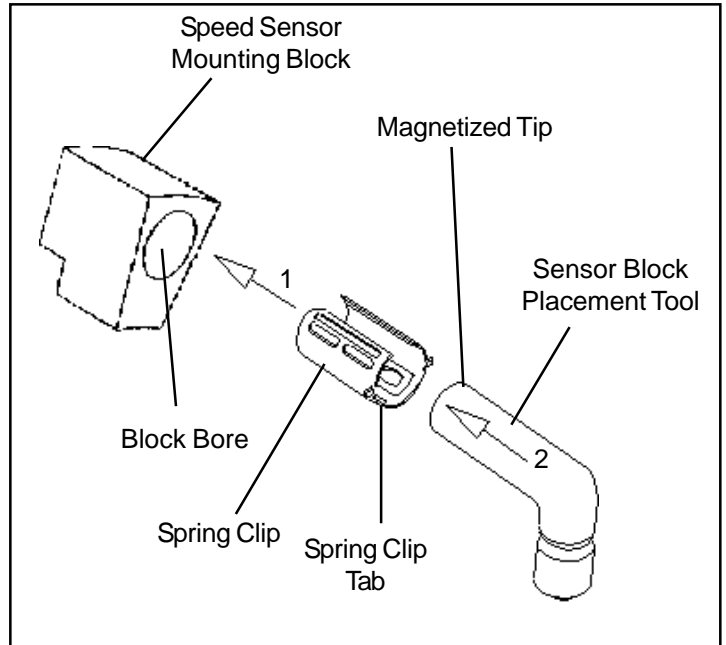

Figure 2
3. Insert the spare spring clip into the sensor block, then insert the sensor block placement tool into block/clip assembly. See Figure 2. Adjust the amount that the placement tool protrudes through the block to between .125" to .187".